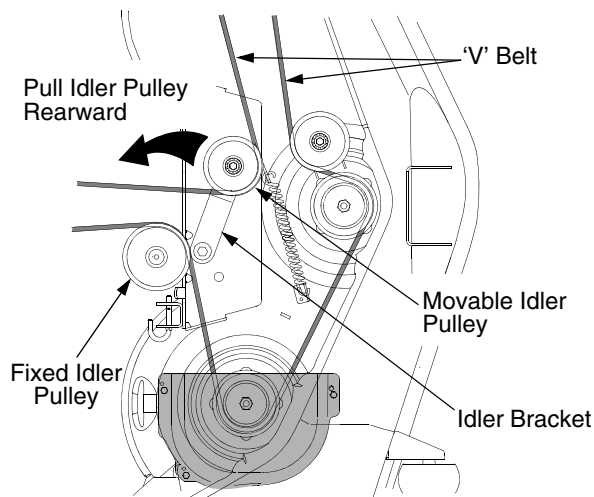

Figure 29
- Working from the middle of the tractor, pivot the idler bracket and movable idler pulley rearward away from the backside of the 'V' belt just far enough to lift the belt up and over the idler pulley. See Figure 29.
- Route the backside of the belt around the fixed idler pulley of the deck. Refer to Figure 29.
- Working from the middle of the tractor, pivot the idler bracket/movable pulley rearward against the spring tension and slide the backside of the belt onto the movable idler pulley. Refer to Figure 29.
- Make certain the belt is in the spindle pulleys of the deck, and that the backside of the belt is against both the fixed and movable idler pulleys. Refer to Figure 29.